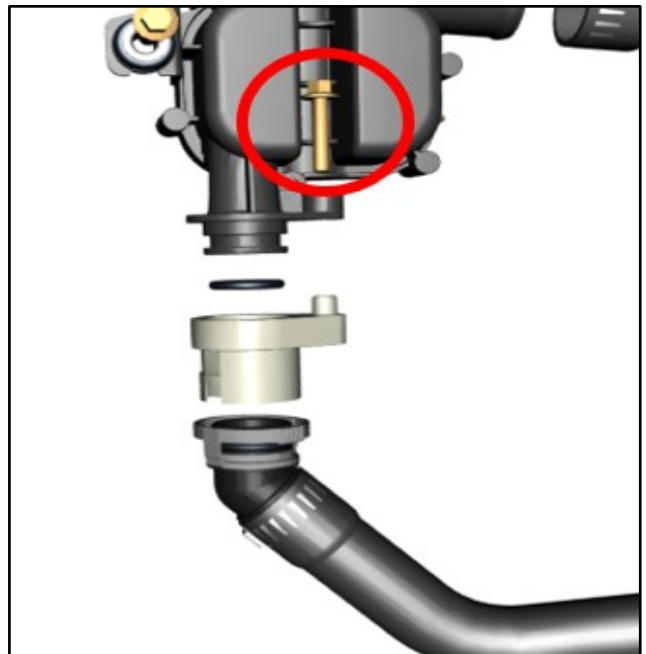

Figure 3
4. Remove the bolt that attaches the adaptor and hose to the sound regulator (refer to Figure 3).